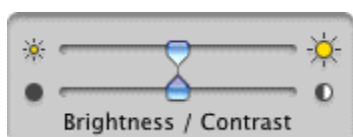

Figure 13
- There may be an opportunity to enhance software functionality to improve the overall product results and experience. This may be a simple matter of more graphically depicted adjustment tools (Figure 13), additional preview dialogue boxes (Figure 14), or custom, less-windows graphical interfaces (Figure 15).